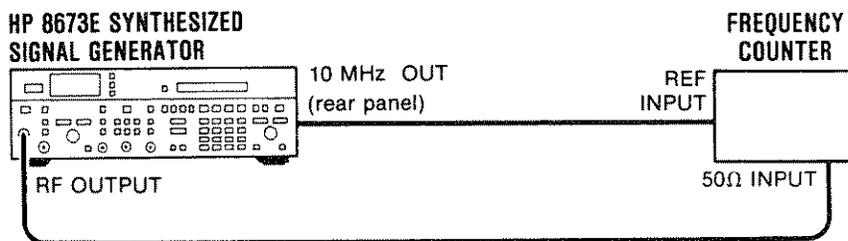

Figure 4-1. Frequency Range and Resolution Test Setup
1. Connect the equipment as shown in Figure 4-1. Set the Signal Generator rear panel INT/EXT switch to EXT. Remove FREQ STANDARD jumper and connect A3J10 to 10 MHz frequency standard output from counter.